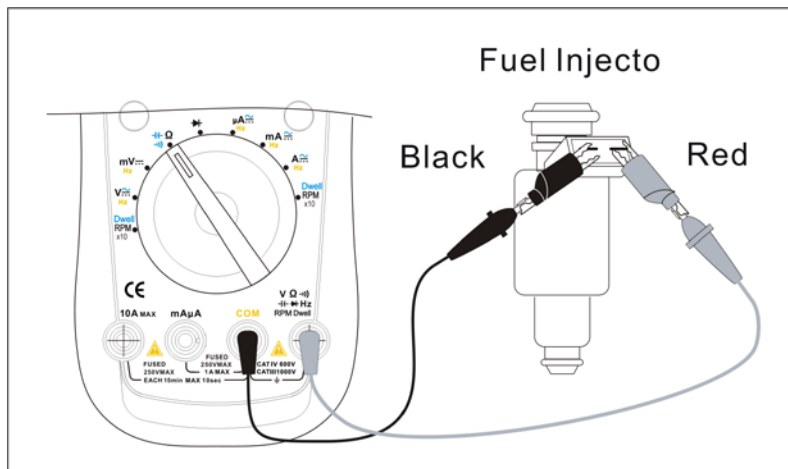

Figure 21
(2) Fuel Injector Resistance Testing (see figure 21)